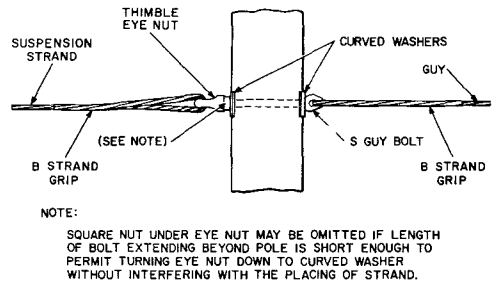

Fig. 3—S Guy Bolt and Associated Hardware Installed Where Lead/Height Ratio of Guy is More Than 1-1/4
2.10 Where guy bolts and thimble eye nuts are used and the lead/height ratio is more than 1-1/4, select the hardware listed in Table C and terminate as shown in Fig. 3.